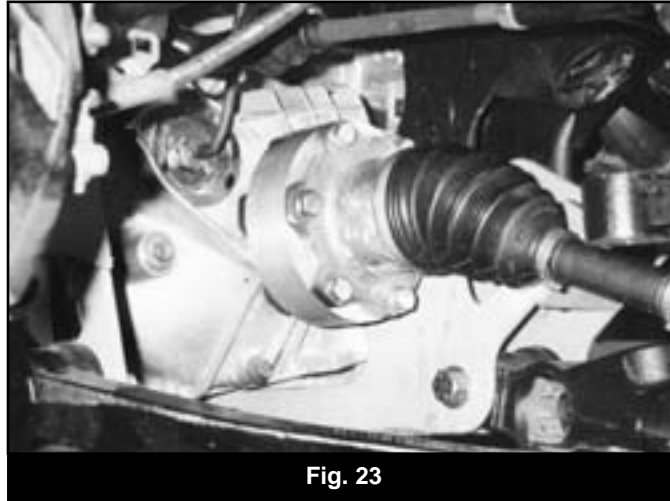

Fig. 23
55. Install the CV spacers between the CV shaft and the differential housing using 10mm x 70mm bolts and washers (Fig 23) from bolt pack #568. Torque the bolts in a crossing pattern to 55 ft-lbs. Use Loctite® on the mounting bolts.